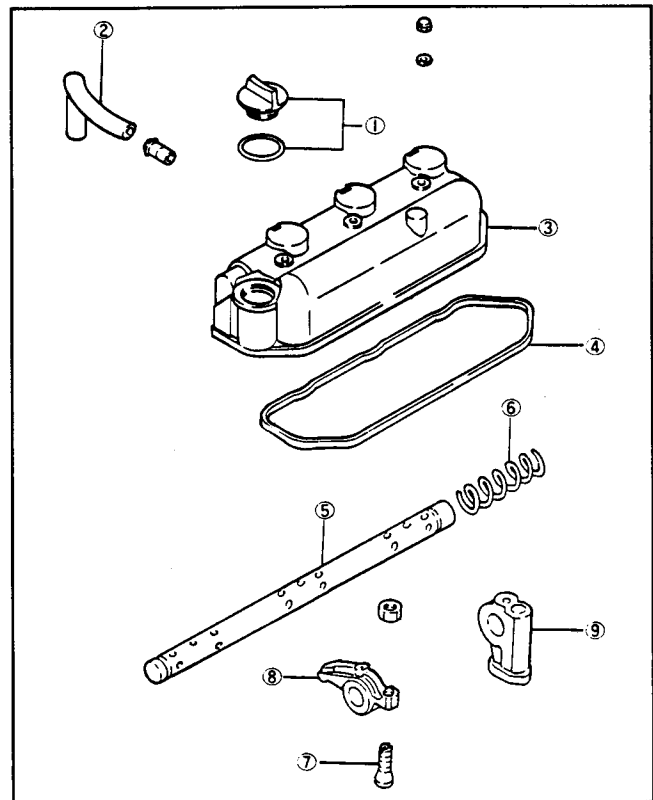

Figure 69
1. Remove the snap ring on each end of the rocker shaft. Remove the rocker arm stay bolts. Remove rocker arm stays, spring and rocker arms from the shaft (Fig. 69).